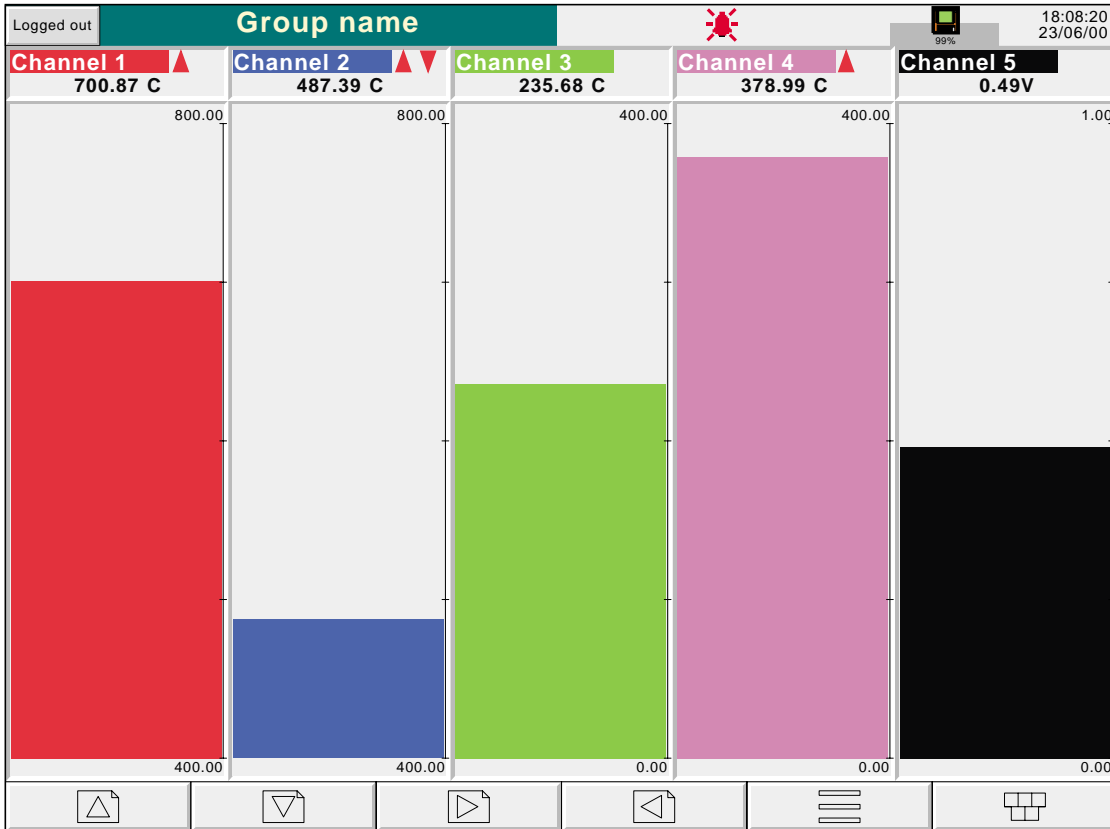
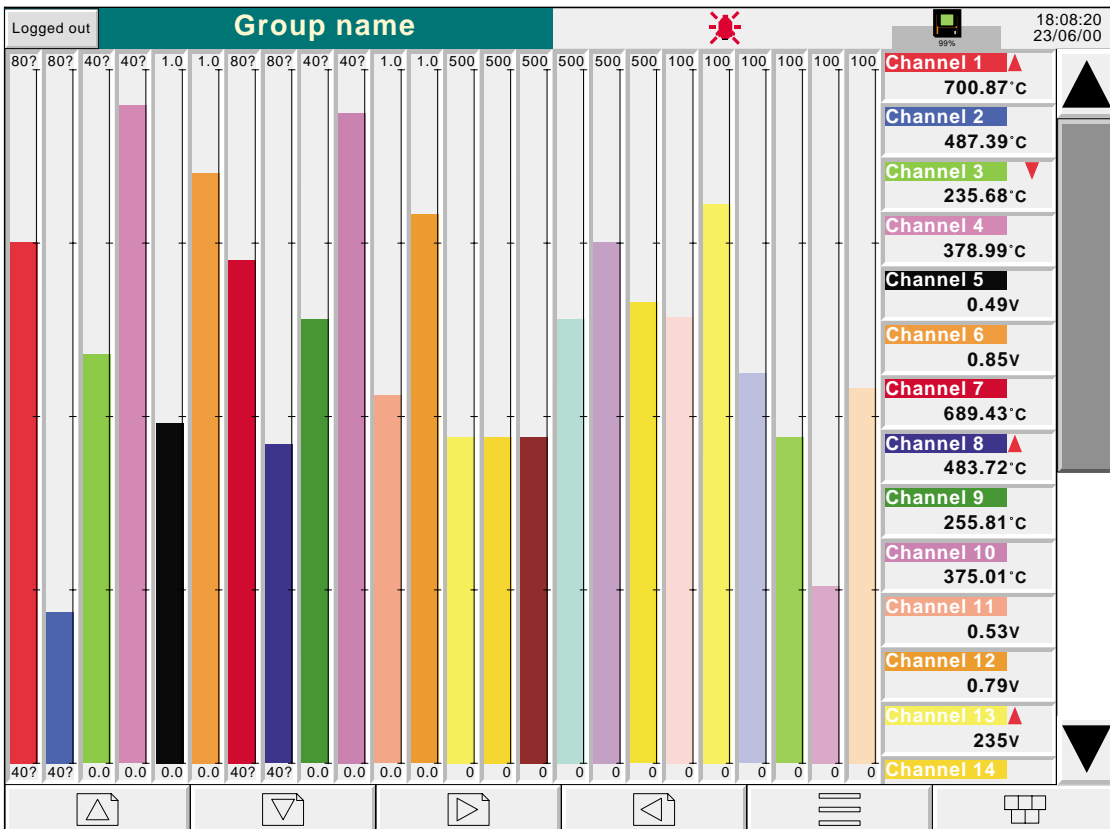

Figure 3.4.3a Vertical bargraph display (1 to 6 channels)
Figure 3.4.3b Vertical bargraph display (more than 6 channels)
Entered from Horizontal Trend mode by means of the 'Cycle' or down arrow key, this display mode shows the Process Variable (PV) values as vertical bars with faceplates containing digital values and alarm data. There are two versions, one with faceplates above the bars (1 to 6 channels - figure 3.4.3a); the other (with faceplates at the right hand edge of the display - figure 3.4.3b) is used where there are more than six channels (note 1).
As the number of PVs increases, the bars get narrower, and the faceplates reduce in height to a minimum readable height (13 complete faceplates). If there are more than thirteen channels in the group, a slider bar appears at the right hand edge of the screen, allowing hidden faceplates to be displayed as required. As the bars get narrower, so the scale values become truncated as shown in figure 3.4.3b)